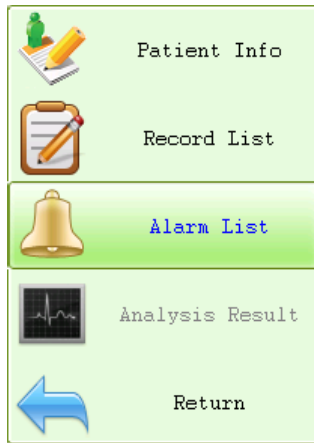
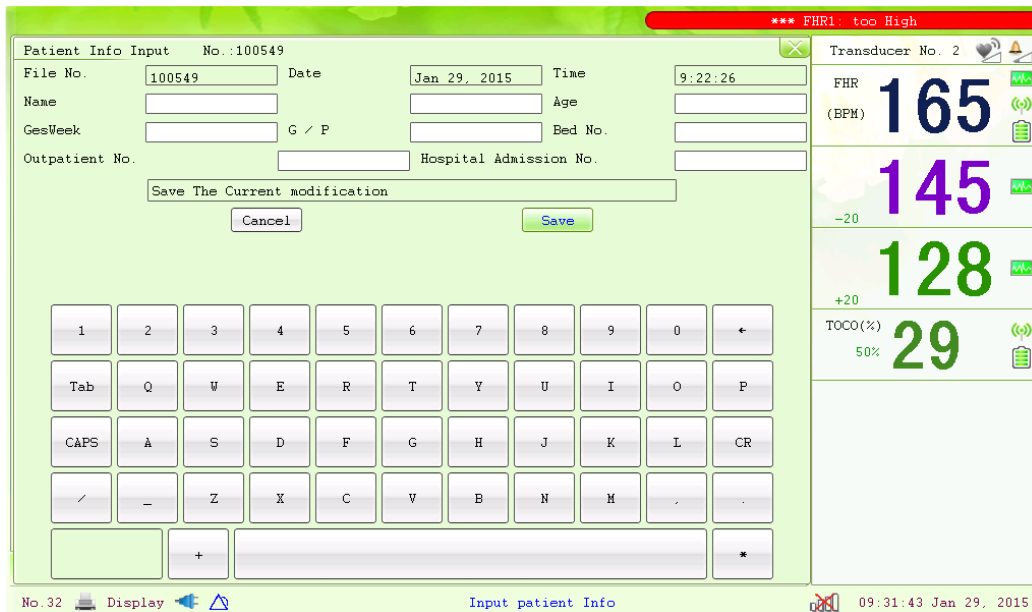
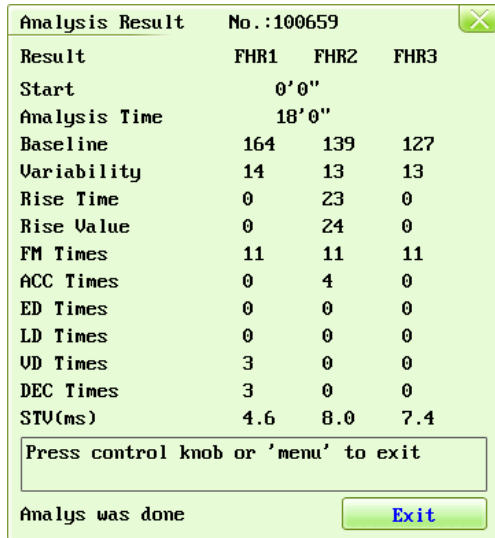

Fig. 8-3
Fig. 8-4
Fig. 8-8 CTG analysis results
- 1) Press the **Bed** key  to and rotate the control knob to select the Tools menu key , press the control knob and enter the shortcut menu, shown as Fig.8-3. Select the **Patient Info** item and enter the Patient Information menu, shown as Fig.8-4.
the **Bed** key  and rotate the control knob to select the Tools menu key , press the control knob and enter the shortcut menu, shown as Fig.8-3. Select the **Analysis Result** menu, shown as Fig.8-8.
Refer to Fig. 8-8, the CTG analysis results on the screen include: